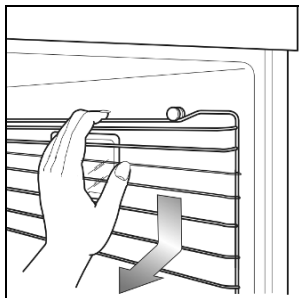
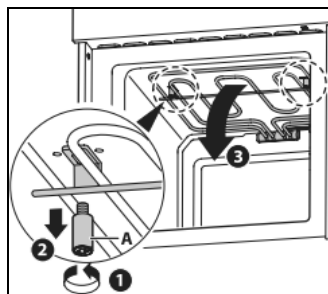
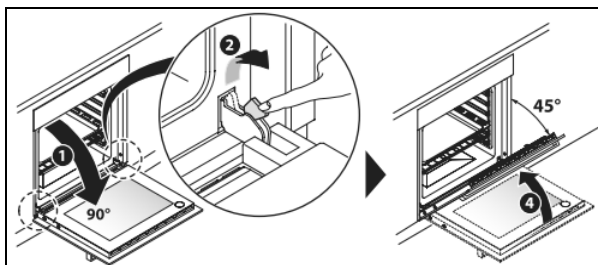

Fig. 6
Fig. 7
Fig. 8
For simple cleaning of the device, you can remove the guiding rails (fig. 6), lift down the upper heating element (fig. 7) and remove the convection oven door (fig. 8,9). Observe the following instructions and figures:
Removal of the convection oven door (fig. 8,9)
- Remove the guiding rails (fig. 6).